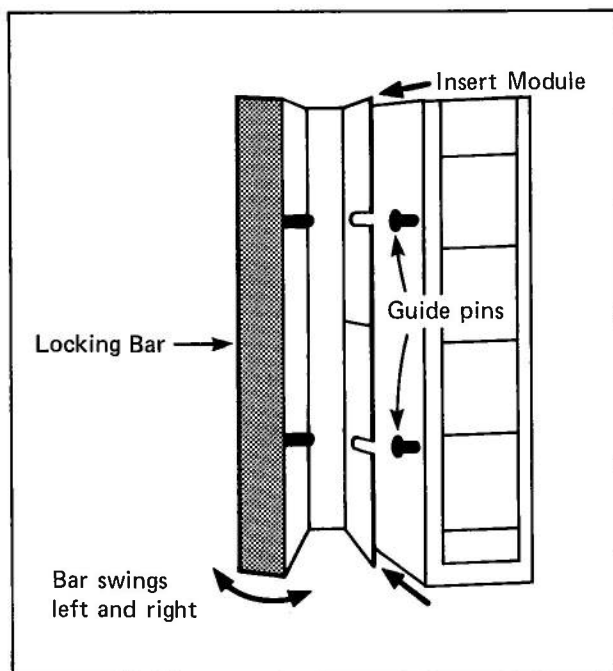

Figure 5 — Guide Slots
Step 3 — Move the Locking Bar on the I/O Rack's built-in terminal block to the left in order to uncover the guide slots on the block. (See Figure 5.)